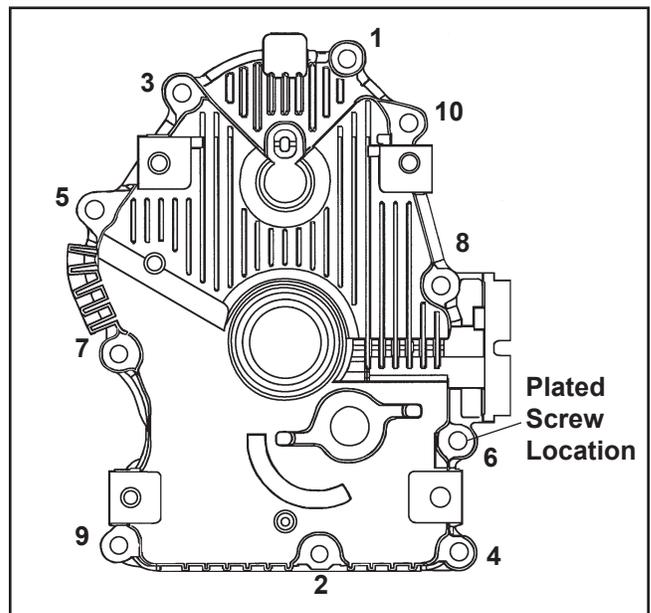

Figure 11-19. Closure Plate Torque Sequence.
7. Install the ten hex flange screws securing the closure plate to the crankcase. If a thick flat washer was used on one of the screws, install it in the #10 location. Install the silver plated (ground) screw in its original location (normally the #4 or #6 location). Torque the fasteners, in the torque sequence shown in Figure 11-19 to 24.4 N·m (216 in. lb.).